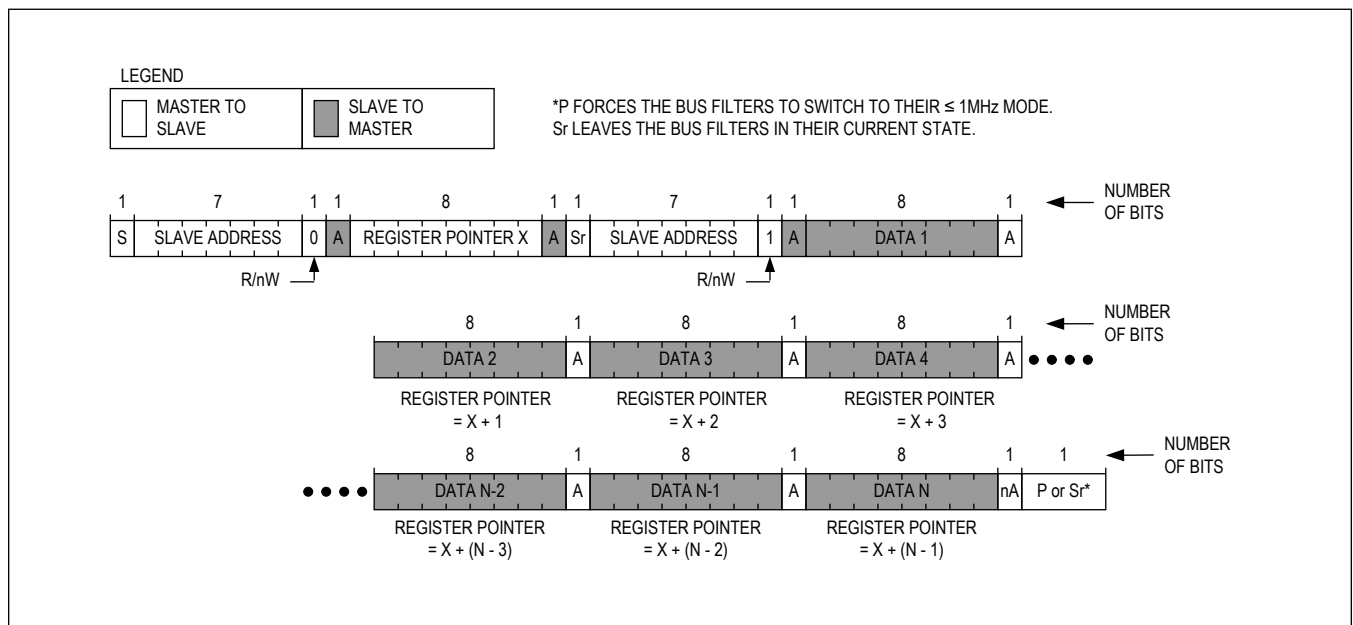

Figure 14. Reading from Sequential Registers
Figure 14 shows the protocol for reading from sequential registers. This protocol is similar to the “Read Byte” protocol, except the master device issues an ACKNOWLEDGE (A) to signal the slave device that it wants more data. When the master device has all the data it requires, it issues a NOT-ACKNOWLEDGE (nA) and a STOP condition (P) to end the transmission.